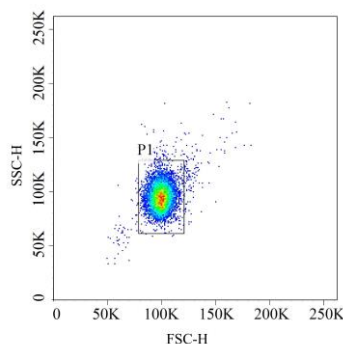

Figure 1
- 2) Create an FSC-H/SSC-H scatter plot. Adjust FSC and SSC to identify the cytokine bead population using a rectangular P1 gate (Figure 1).